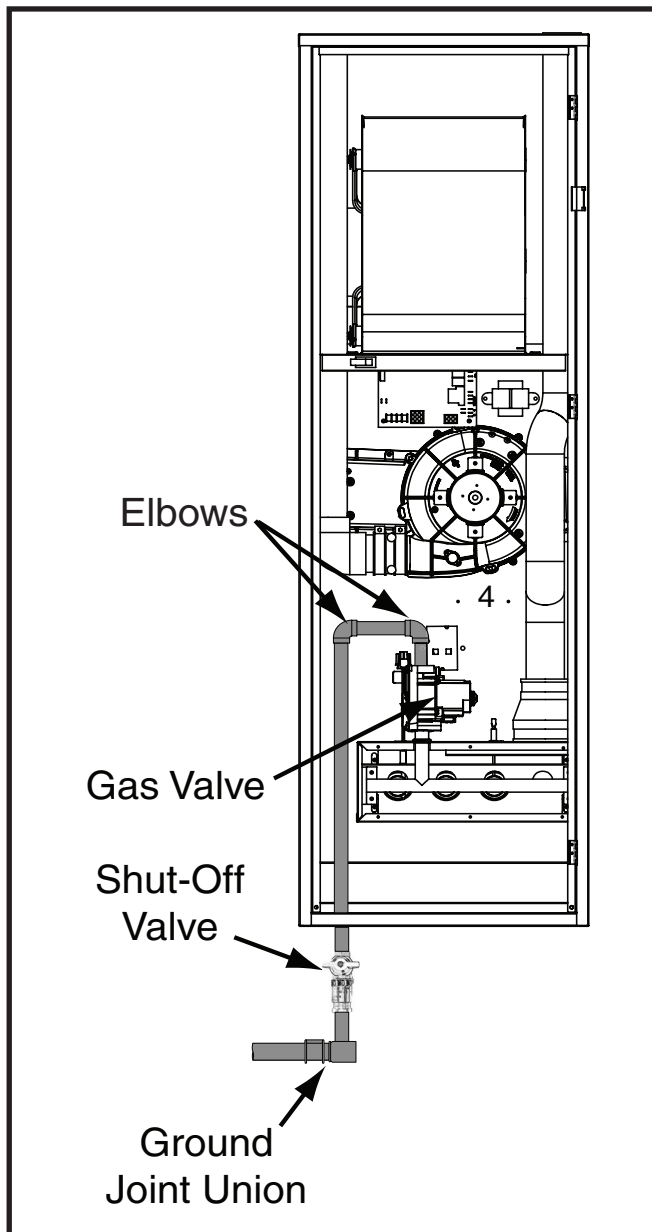

Figure 12. Typical Gas Connections
- Some local regulations require the installation of a manual main shut-off valve and ground joint union external to the furnace as shown in Figure 12 \(page 17\). The shut-off valve should be readily accessible for service and/or emergency use. Consult the local utility or gas supplier for additional requirements regarding placement of the manual main gas shut-off.
The furnace is installed with a bottom gas entry. When connecting the gas supply, provide clearance between the gas supply line and the entry hole in the furnace casing to avoid unwanted noise and/or damage to the furnace. Typical gas hookups are shown in Figure 12.